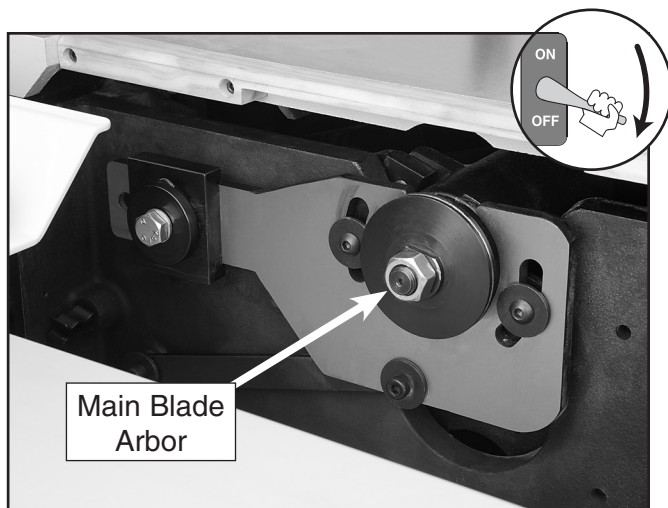

Figure 45. Main blade arbor components.
- Slide the table all the way forward to access the blade arbor and pull open the blade guard (see **Figure 45**).